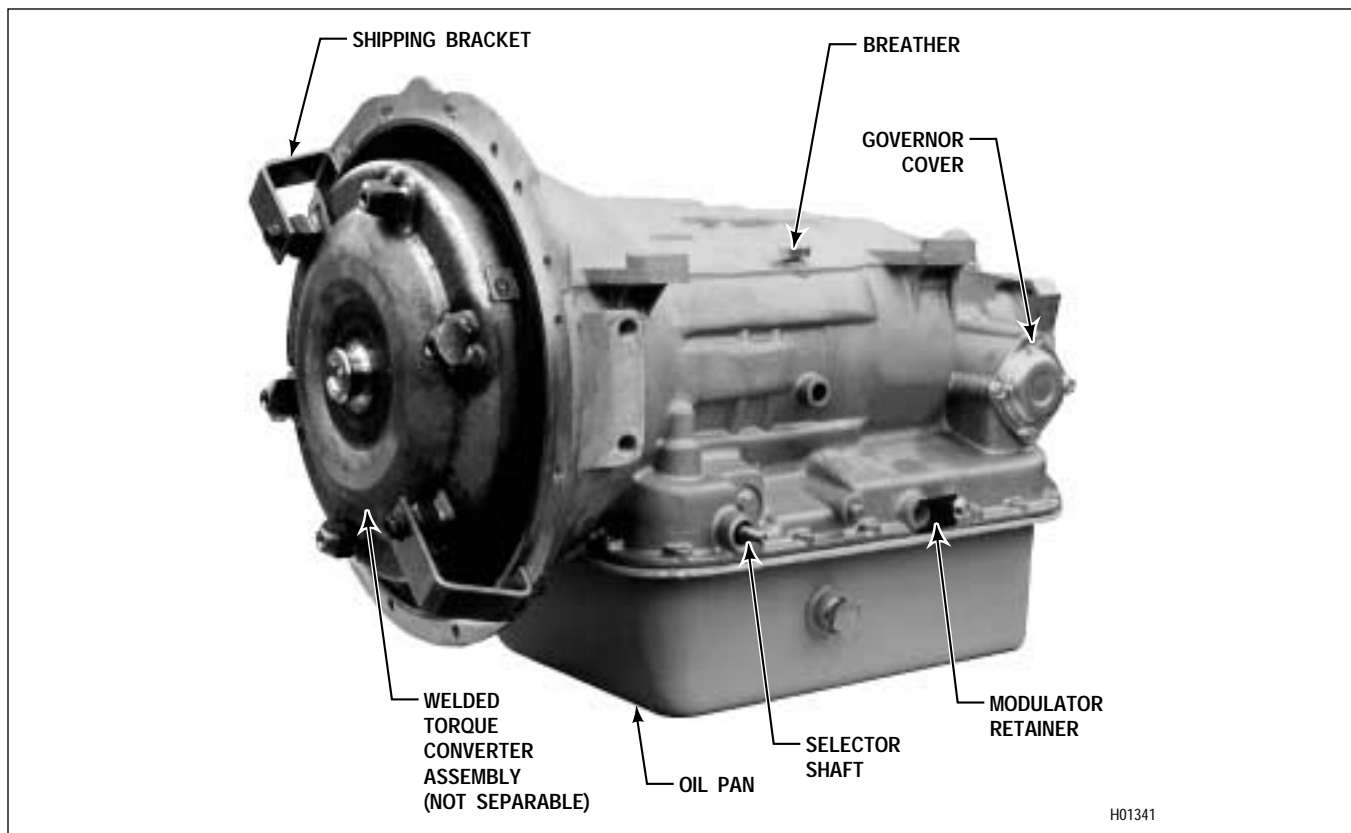

Figure 1-1. AT 1545 Automatic Transmission — Left-Front View
(1) This Service Manual describes the operation, maintenance, and overhaul procedures for the AT 540, AT 542(N)(R)(NFE), AT 543, AT 545(N)(R), AT 1542P, AT 1545P(N) Series automatic transmissions (Figures 1-1 through 1-4). A description of the major components of the transmissions, the function and operation of the hydraulic system, wear limits, and inspection procedures are included. Torque specifications are given with each assembly step and on the exploded view foldouts at the back of this manual.
(2) Because of similarities of all models, instructions apply generally to all models. Where procedures vary between models, instructions identify specific models.